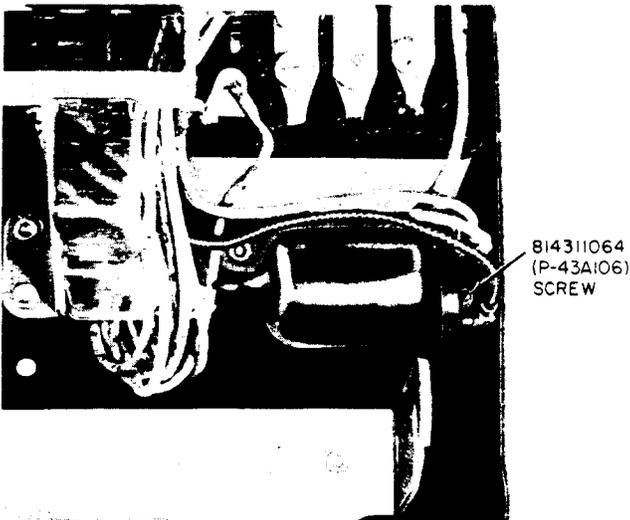
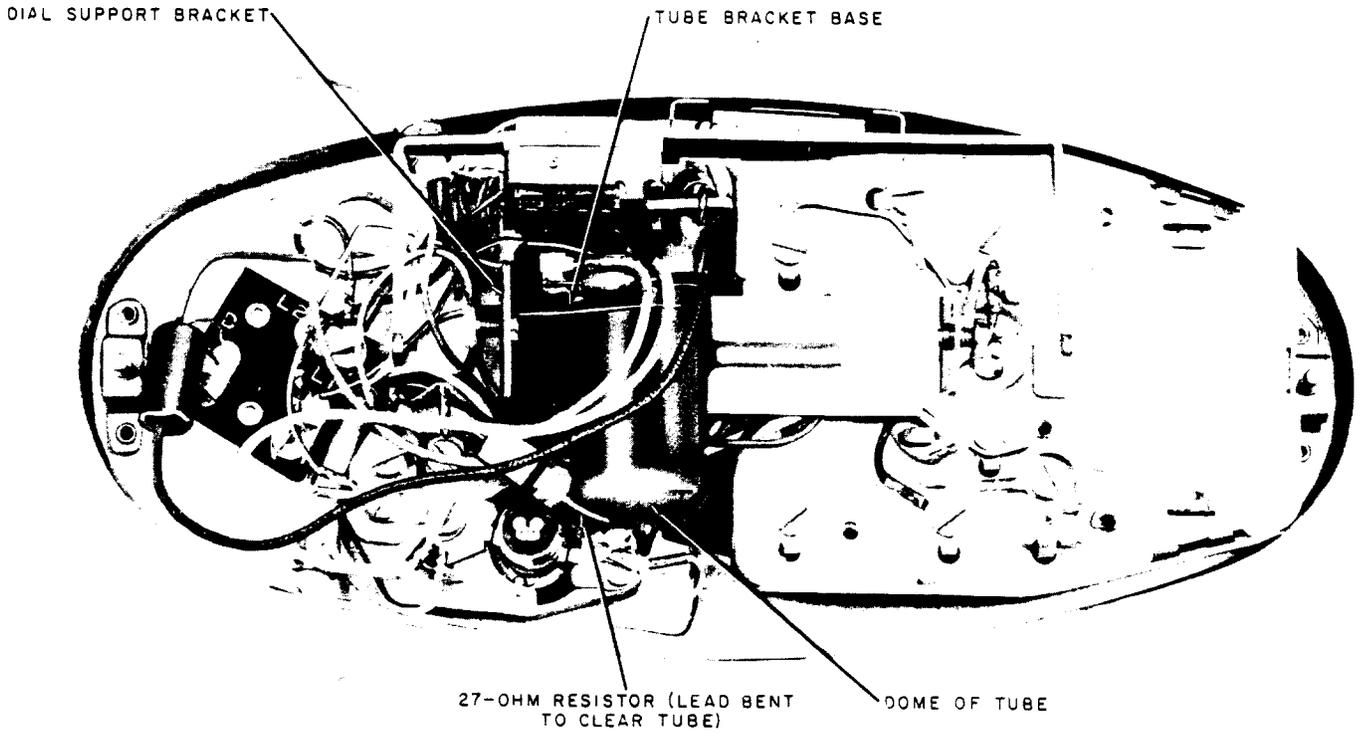

Fig. 5—500-Type Telephone Set, Tube Assembly
Fig. 6—Cold-Cathode Tube Installation in 702-Type Telephone Set
3.02 Tubes may be used with all sets that have space available for mounting. In all 500- and 2500-type sets the tube is mounted to the base, (Fig. 5) using the mounting screw provided. In a 702-type set it will be necessary to remove the dial in order to place the tube beside the network (Fig. 6).